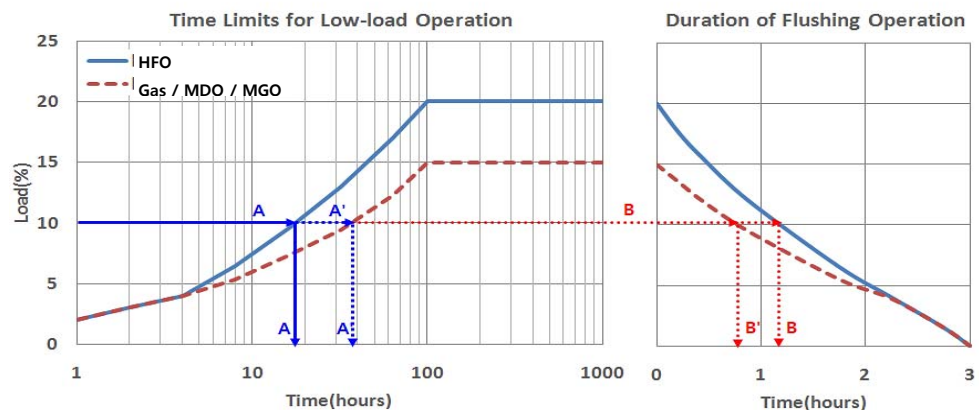

Figure 5.4 Time limits for low load operation
- ✓ Below 15 % load operation : load up over 70 % load at every limited time at corresponding load in Figure 5.4
- ✓ Below 20 % load operation : load up over 70 % load at every limited time at corresponding load in Figure 5.4
Duration of flushing operation (See Figure 5.4)